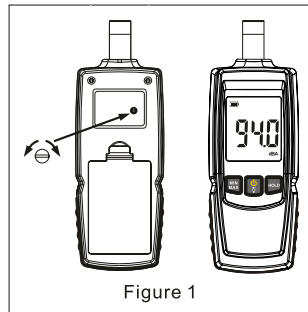

Figure 1
- 2、 Turn on the power switch of standard sound source(94dB@1KHz), use straight screwdriver to adjust potentiometer located in the opening hole within the machine stick, and make LCD display 94.0(referring to Figure 1).